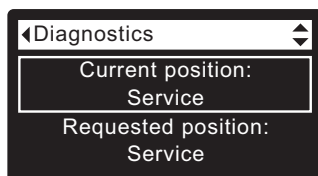

FIG. 100
4. Press the UP (▲) button to scroll through the list until **Current position** is displayed (See Figure 100).